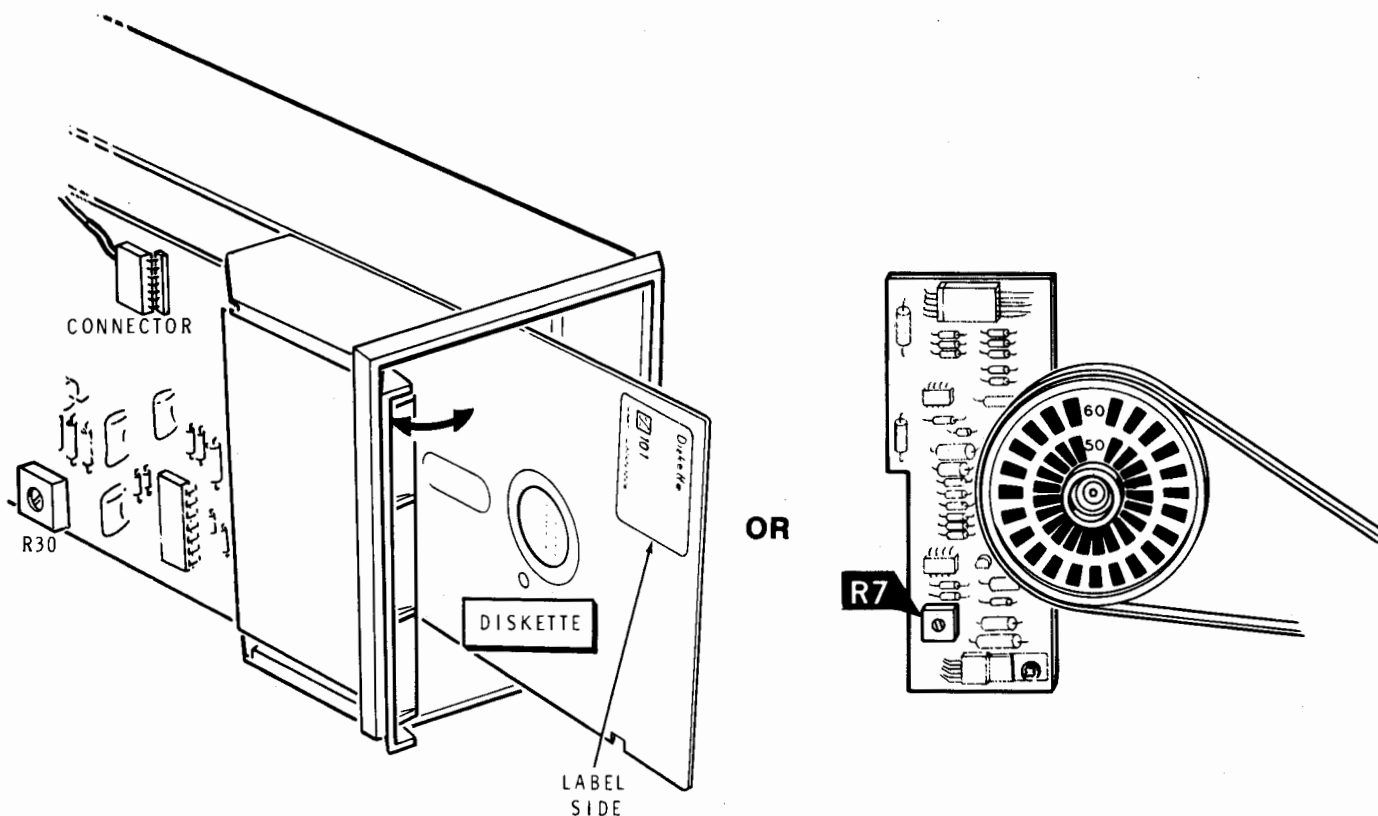

Figure 4-1
The drive unit has a control labeled R30 or R7, which is used to vary the drive speed. This control is located near the lower edge of the circuit board or on the other side of the drive as shown in Figure 4-1. This adjustment may be extremely sensitive, so if an adjustment is necessary, do not turn it far in either direction. Less than one degree of rotation in either direction should bring the drive speed into tolerance. Turn the control clockwise to decrease the speed or counterclockwise to increase it.
- Refer to Figure 4-1, install a diskette into the drive as shown, and close the door. The test will not start until this is done. Also, the test will not damage the data on the diskette.